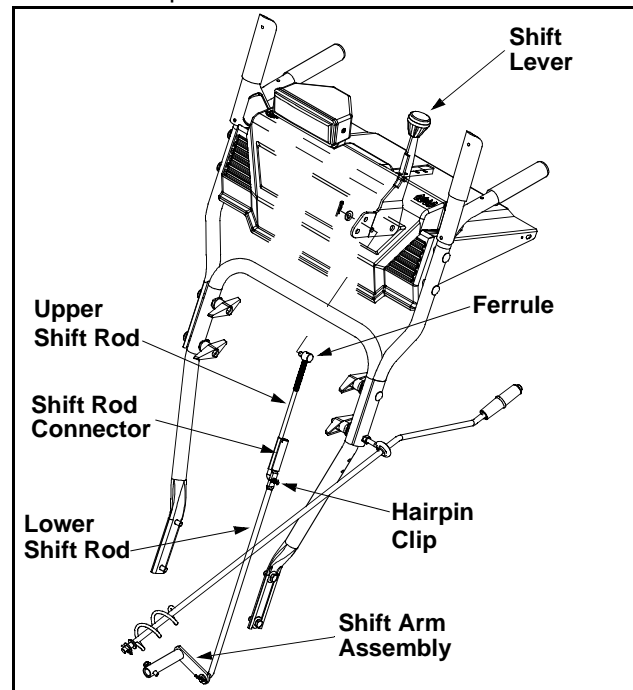

Figure 15
1. Remove hairpin clip and slide shift rod connector up to separate upper and lower shift rod. See Figure 15.
2. Place shift lever in sixth (6) position or fastest forward speed.